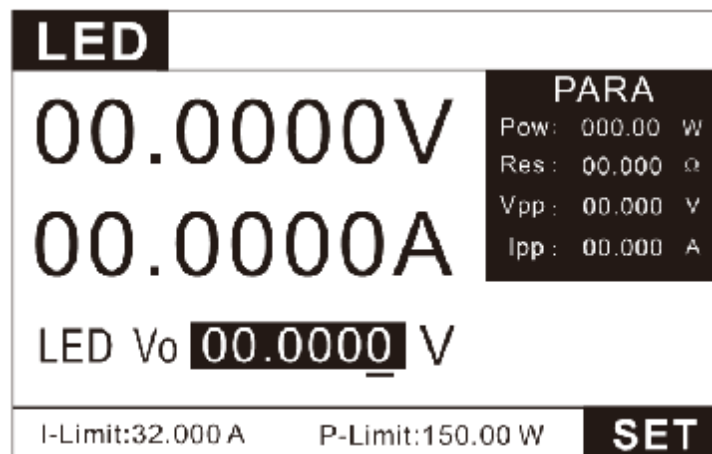

Figure 3.26 LED mode testing page
1. Press the key **MODE** to enter the mode selection page, press the up and down keys to select LED, and press the key **ENTER** to enter the LED test interface, as shown in Figure 3.26.
2. In Figure 3.26, press the key **SET** to enter the setting interface, as shown in Figure 3.25, set  $V_o=34.4V, I_o=0.35A, R_f=0.173$  . Then  $R_f$  is calculated as follows: